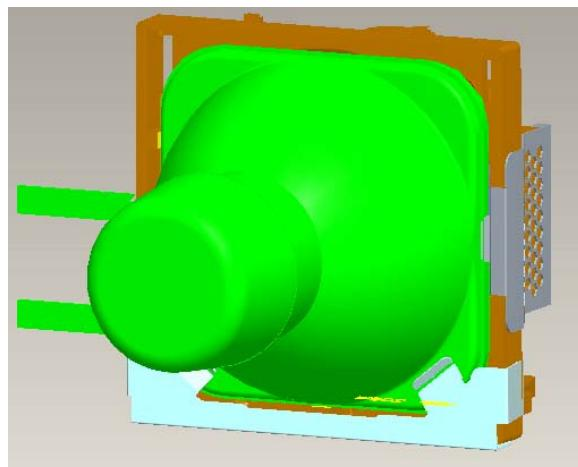

Fig. 1-13
- iii. After assemble Lamp to HLD Lamp, Hook “Clip down Lamp” first then Hook “Clip UP Lamp” on the HLD Lamp to fix Lamp last. (Fig. 1-13、1-14)